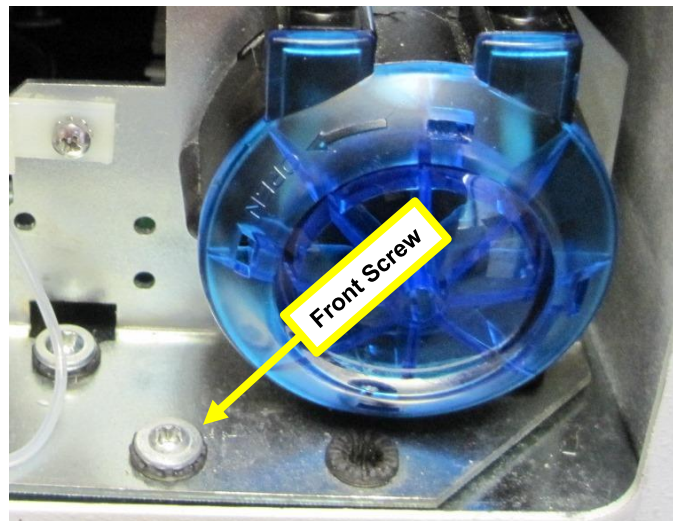

Figure 27
29. Remove the front screw on the peristaltic pump Figure 27 and set the entire sub-assembly aside.